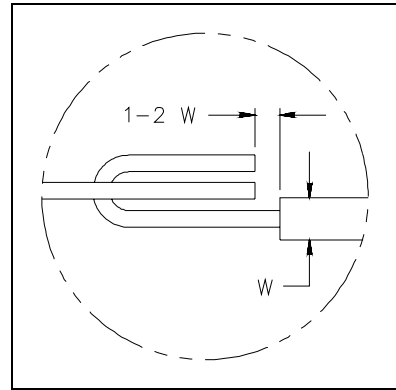

Figure 1. Proper J-Hook
4. J-hook all the connections before soldering on the new switch. This process will ensure a good mechanical connection. See Figure 1.